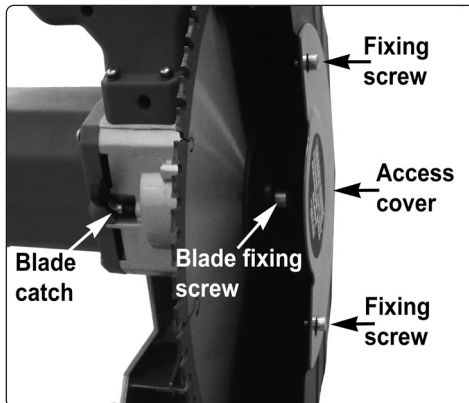

fig.5
5.3. REMOVING AND INSTALLING CUTTING BLADES (REFER TO FIGS. 5 & 6)